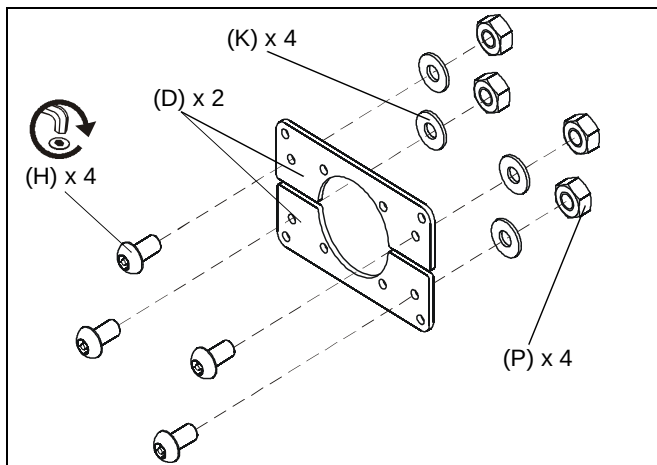

Figure 2
1. **For the RPM only**, prepare two interface brackets (D) using four 1/4-20x3/4" buttonhead screws (H), four 1/4" flat washers (K) and four 1/4" hex nuts (P). (See Figure 2)